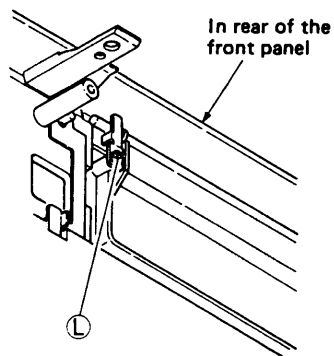

Fig. 1-1-10
2. Take out one screw (L) of the front panel assembly.
3. Refer to Fig. 1-1-10 and use care regarding the torsion spring, then pull out the left end of the cassette housing door to move it.